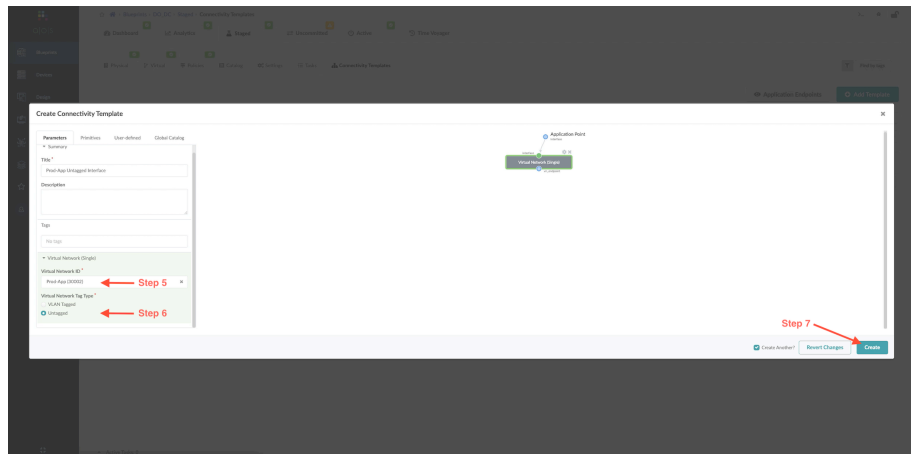

Figure 5.18 Creating a Connectivity Template via Apstra
Step 5: Under the Parameters tab select the desired VNI. See Figure 5.18.